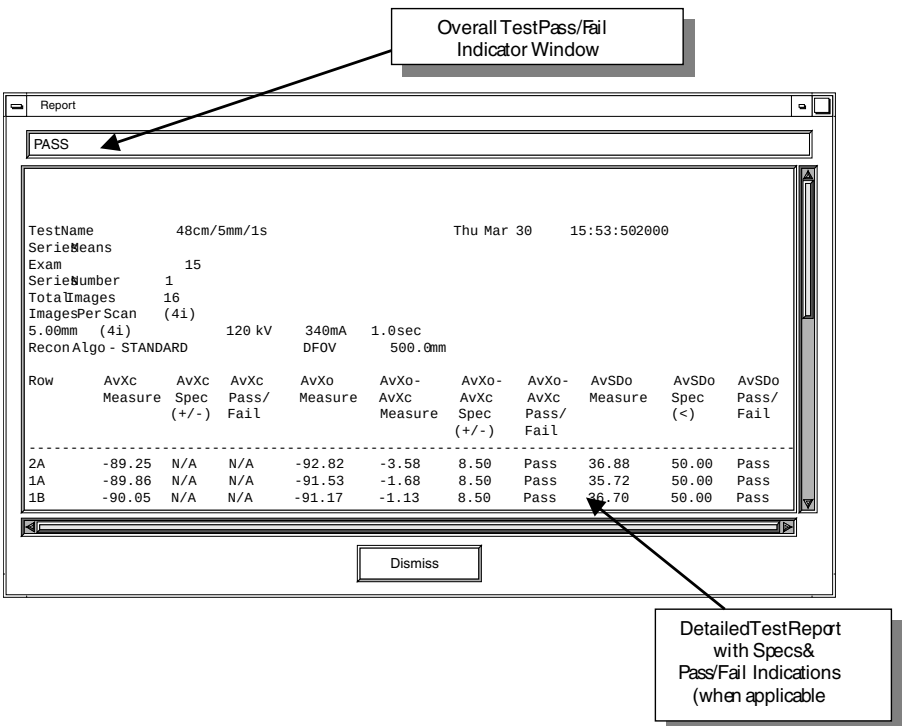

Figure 8-6 Analysis Tool User Interface – Test Results Report Window
- a.) Verify the Overall Test Pass/Fail Indicator Window of the Report display indicates PASS. (See Figure 8-6.)